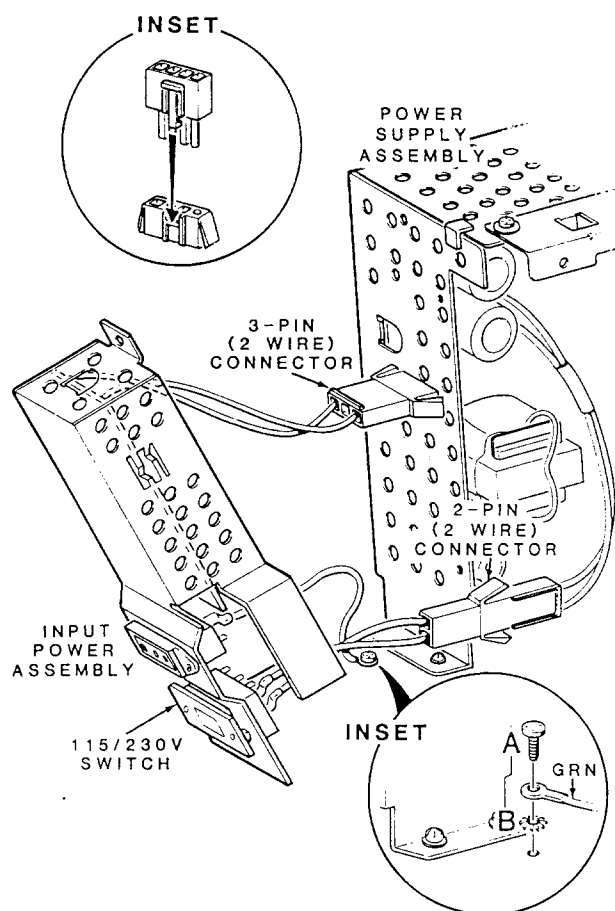

Figure 3-14. Input Power Assembly Connectors
2. Carefully pull the input power assembly back and away from the power supply assembly and disconnect connector AC IN (3-pin, 2-wire), at the back of the power supply assembly, as shown in Figure 3-14.
3. Disconnect the 2-pin, 2-wire connector that connects the 115V/230V switch to the power supply assembly, as shown in Figure 3-14.
4. Remove the 7/16-inch, phillips thread-forming screw labeled A in the inset of Figure 3-14. Set the input power assembly to one side. Be sure to install the star washer labeled B between the green wire ground lug and the metal base of the monitor during reassembly, as shown in the inset of Figure 3-14.